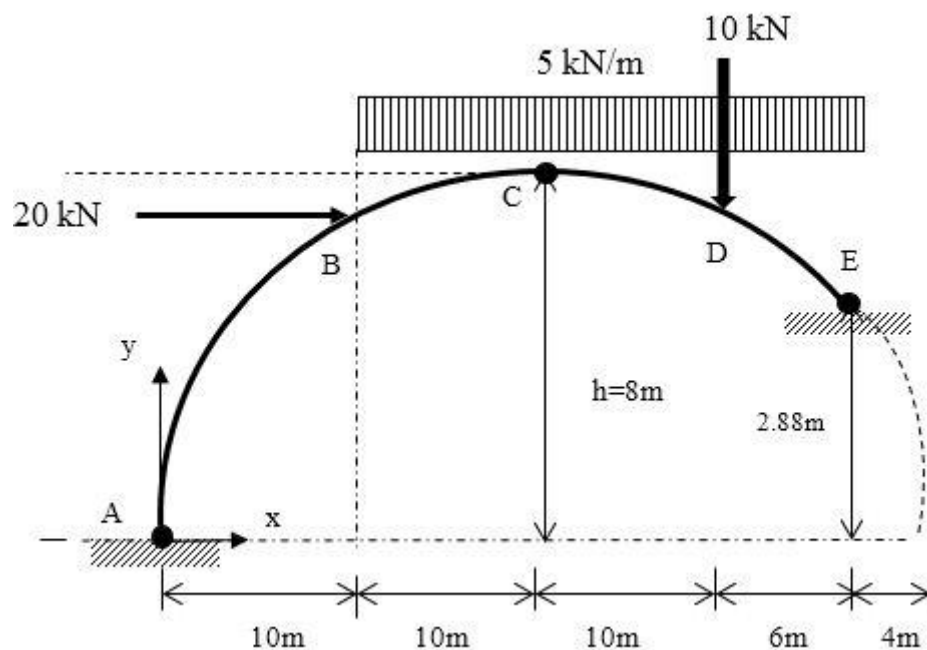

Figure 5
5. Unsymmetrical three pinned arch shown in **Figure 5** is in the form of  $y=4hx(L-x)/L^2$ , where  $L = 40$  m and  $h = 8$  m. Support A is 2.88 m lower than support E. It is designed to carry a uniformly distributed load of 5 kN/m spanning 26 m on span BCDE and a point load of 10 kN at D. A horizontal point load of 20 kN is applied at point B. Joints A, C and E are hinged. Determine:
- shear force (Q) and thrust (N) at points B and D (with loading).